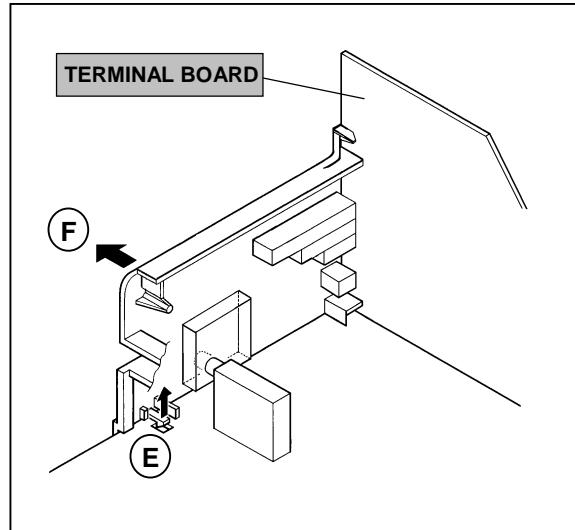

Fig. 1
2. After removing the claw marked **(D)** in the direction of arrow mark as shown in Fig.1.
3. When you pull out the TERMINAL BOARD in the direction of arrow marked **(F)** as shown in Fig.1, it can be removed.
(5) Receive channel setting Refer to the OPERATING INSTRUCTIONS (USER'S GUIDE) and set the receive channels (Channels Preset) as described.
(6) User settings Check the user setting items according to Table 2. Where these do not agree, refer to the OPERATING INSTRUCTIONS (USER'S GUIDE) and set the items as described.
(7) SERVICE MENU setting Verify what to set in the SERVICE MENU, and set whatever is necessary. (Fig.1) Refer to the SERVICE ADJUSTMENT for setting.